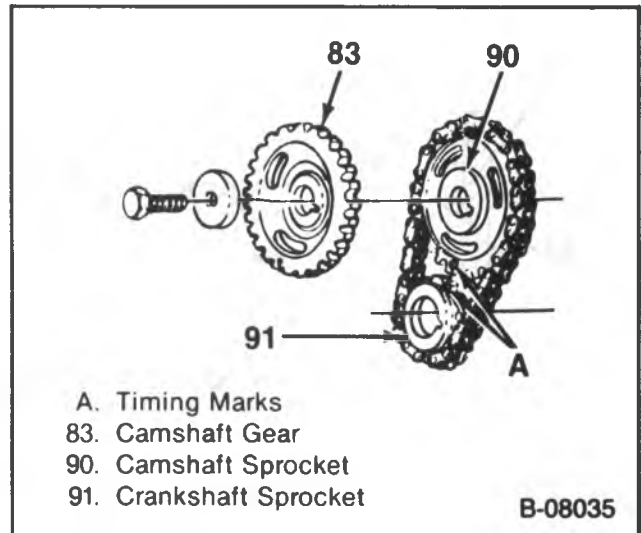

Figure 17 — Timing Chain and Sprockets
Remove or Disconnect (Figure 17)
- Align the timing marks (figure 17).
Install or Connect (Figures 17, 18, 36 and 37)